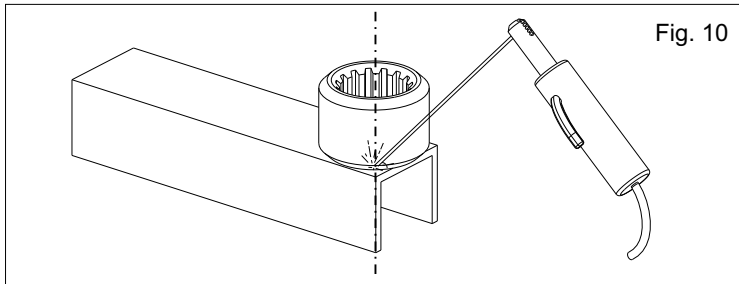

Fig. 10
**3.3.** solder the bush carefully to the iron to closely follow the perpendicularity with the rotation axis (Fig. 10)